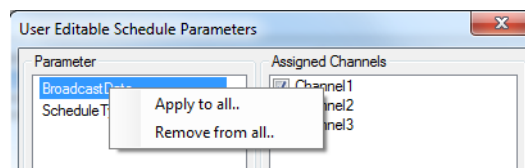

Figure 46 Applying or Removing All Parameters
- Assign the parameters to the channel that holds the schedule. To add or remove all parameters for a channel, right click and select **Apply to all** or **Remove from all** as shown below (Figure 46):